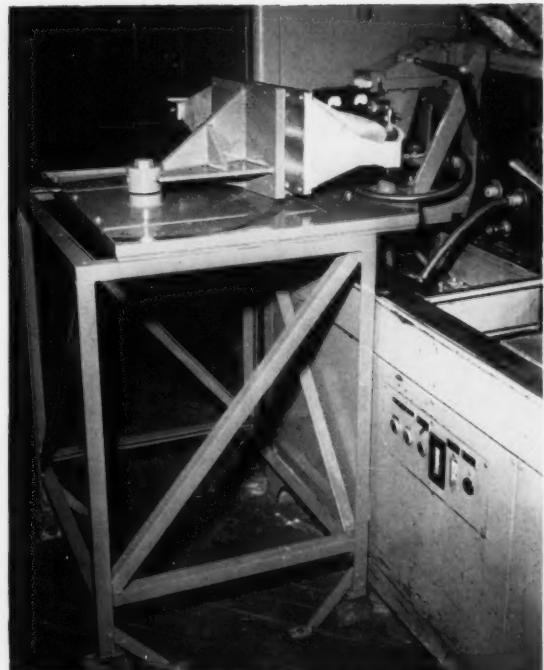

Fig. 1—Overall view of the induction hardening and tempering equipment showing work stand, induction coil and generator unit in background.
A study was made to determine the rate of case formation when nitriding under pressure by the method illustrated in Fig. 1. With short pieces of steel tubing of Type N analysis to contain the specimens to be examined and using 10 grams NH3 per square foot at a pressure of approximately 800 psi when first heated to 1000° F., a series of runs were made at 4, 15, 45, 60 and 90 hours at temperature.
It is well to mention, at this point, that this was a "job shop" type of operation, wherein the particular job had to be set up and dismantled about every ten days. This was taken into account in the design of the fixture. As seen in Fig. 1 it consists of an angle iron stand, on top of which is mounted a work pivoting bracket and the induction heating coil.
1. Roller hearth—the new plant employs the only one in the industry. It has five times the capacity of the other heating equipment—see Figs. 1 and 2.
Fig. 1.—The new roller hearth furnace above is the only one in the magnet manufacturing field. Ring magnets being loaded above travel 21 feet through the furnace on conveyor rolls, emerge with a temperature of about 900°C. This air atmosphere furnace uses 136 KW, has maximum temperature of 1100°C. Door opens to 24x5 inches.